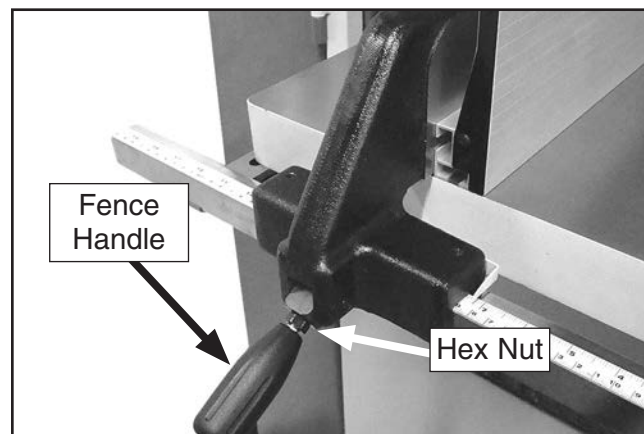

Figure 29. Fence handle components.
19. Thread fence handle into fence, then tighten hex nut against fence pivot block (see **Figure 29**).